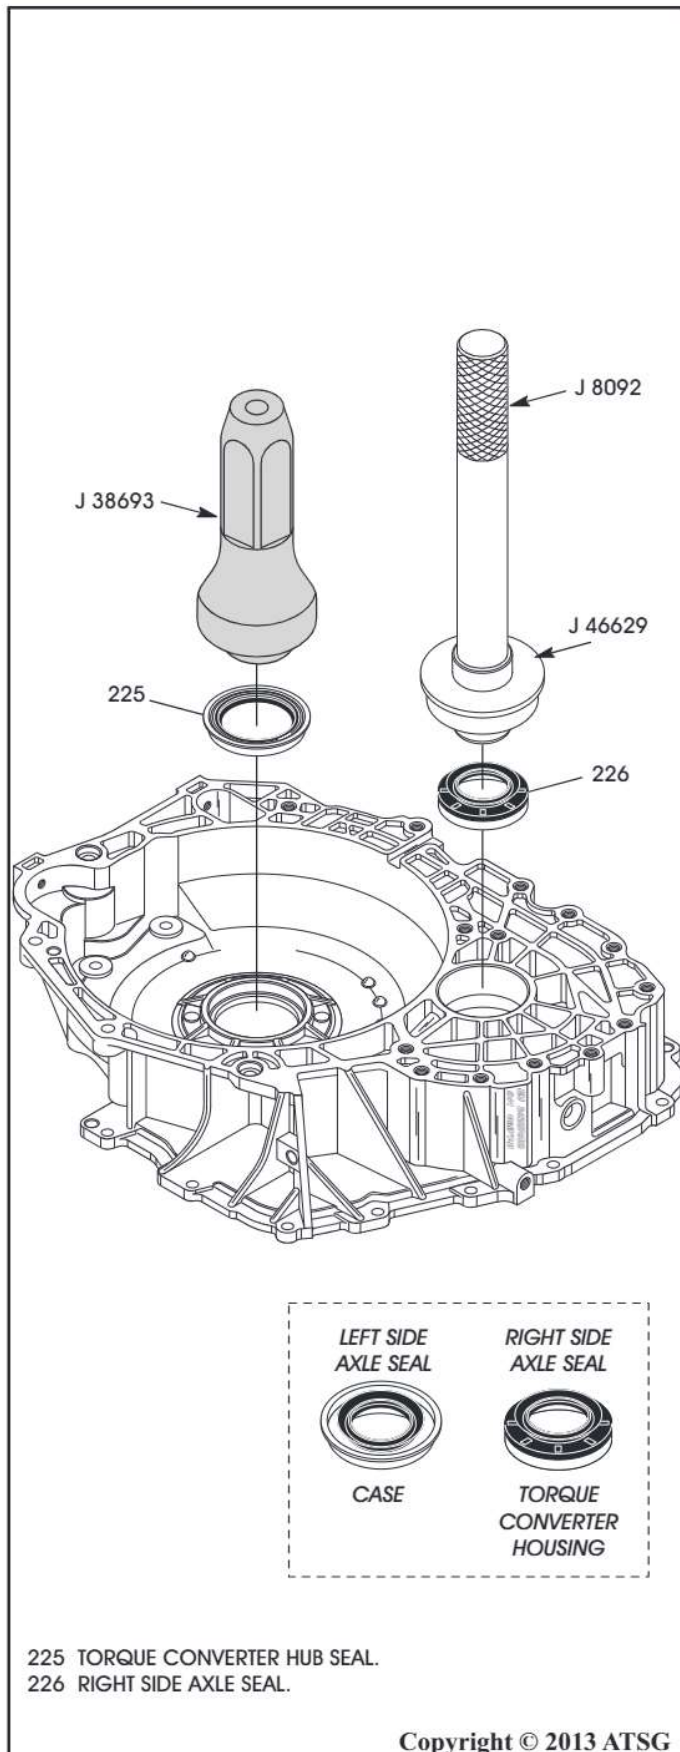

Figure 113
1. Install new converter hub seal into the converter housing, as shown in Figure 113, using J-38693 seal driver.
2. Install the right side axle seal using J-46629 seal driver, as shown in Figure 113.
Note: The right and left side axle seals are different design (See Figure 113).